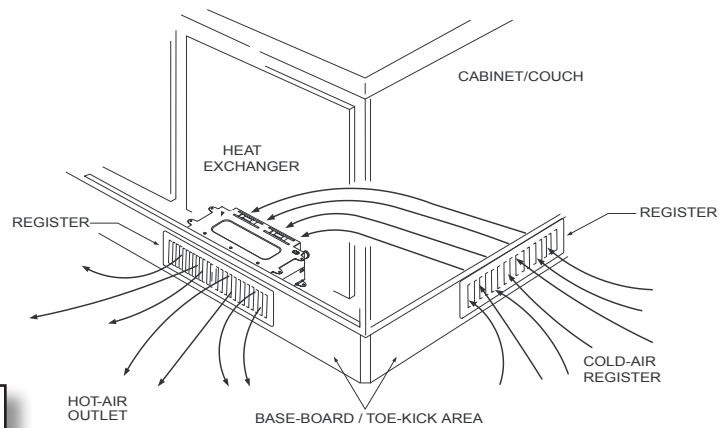

Figure 16
1. Cut out a 2.5 inch H x 10 inch W opening for each heat exchanger outlet and cold-air return register. Reference Figure 16.
3. Install the hot-air outlet and cold-air return registers. Reference Figure 16.